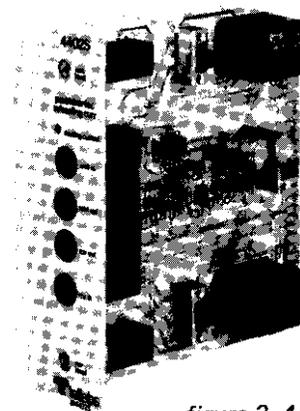

figure 3. 4402S Pad/Transformer module with Sealing Current
1.04 The 4402S Pad/Transformer module (figure 3) is used in applications that do not require gain. The module provides an impedance-matching 4wire line termination as well as attenuation in both the receive and transmit channels. Front-panel test jacks provide access to the transmit and receive channels.